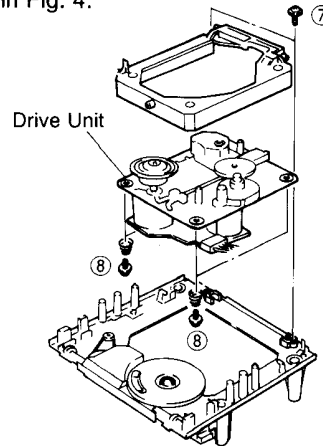

Fig. 4
- a. Remove 2 screws (⑦) in Fig. 4.
- b. Remove 4 screws (⑧) and then remove the Drive Unit in Fig. 4.